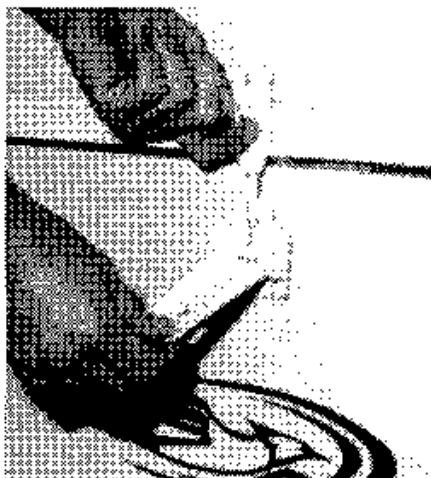

Fig. 1
**CAUTION:** Never attempt to crank up the roof until all corner latches are unlocked and free. Fig. 1. **NEVER LIFT ROOF WITH CARGO IN PLACE.**